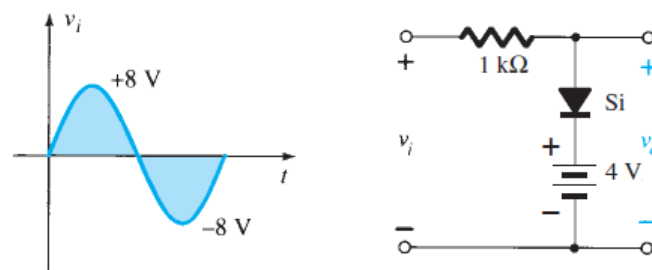

Figure 9.5.1: Response to a parallel clipper.
1. Connect the circuit as shown in Fig. 9.5.1 with certain modifications.